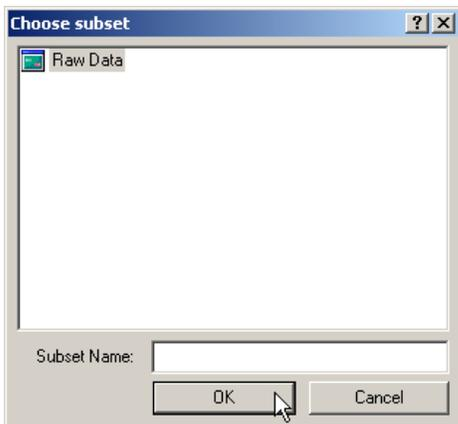

Figure 21 Select Subset Dialog Box
- b. Repeat the process, selecting **3**, **4**, and **5** for the **BlockX**, **Y**, and **X** rows, respectively, as illustrated in Figure 21.
- In the Choose Subset dialog box, only the top-level Raw Data table (the root directory) is listed (Figure 21). Name a new subset in the Name text box **Speed Tutorial** and click **OK**. This is the subset where the data is to be stored.